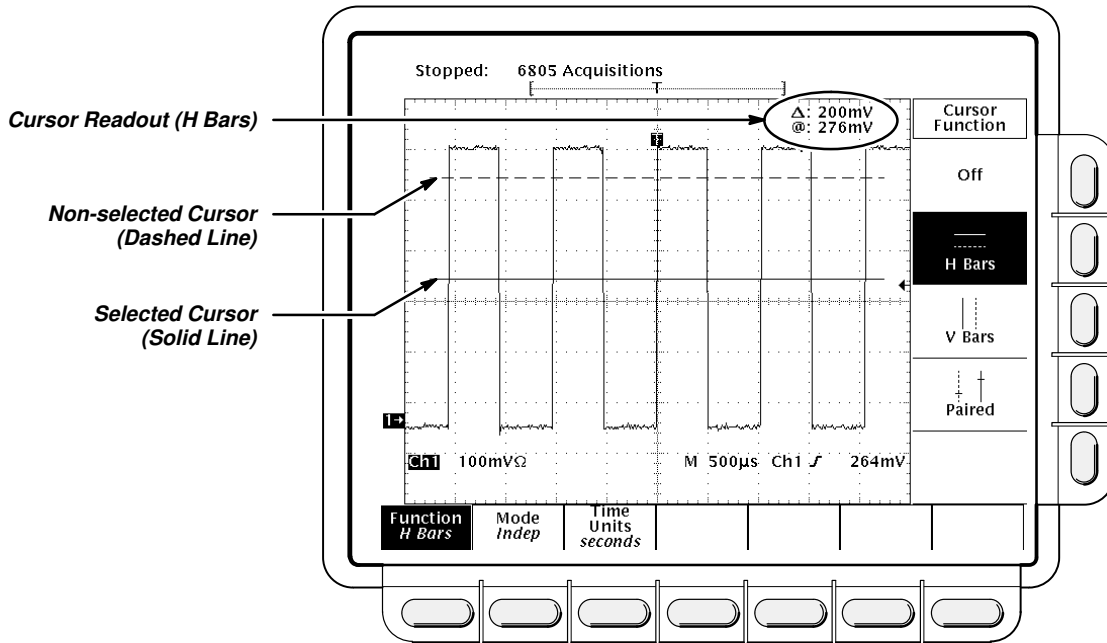

Figure 3-6: H Bars Cursor Menu and Readouts
- **H Bars:** the value after  $\Delta$  shows the voltage difference between the cursors. The value after @ shows the voltage of the selected cursor relative to ground (see Figure 3-6).
To take cursor measurements, press **CURSOR** to display the Cursor menu (Figure 3-6).